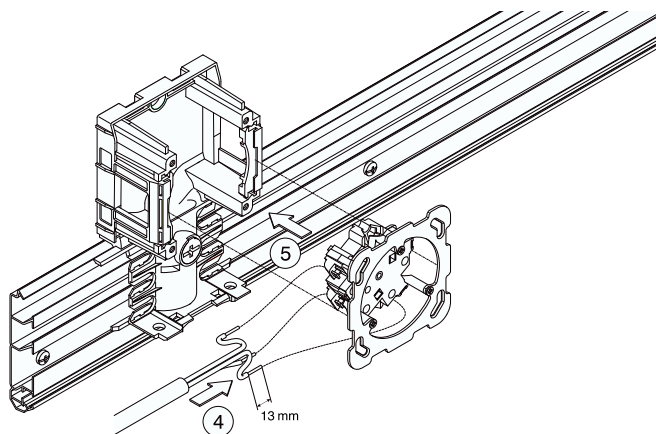

Figure 3
3. Connecting the power sockets (fig. 3)